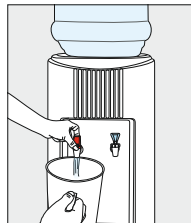
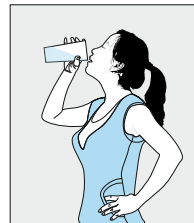

Figure 5
Figure 6
4. Do not draw water from the cooler for about 30 minutes to let the water cool or heat. Optimum water temperatures will be reached after several hours of operation. (Figure 5 and Figure 6)